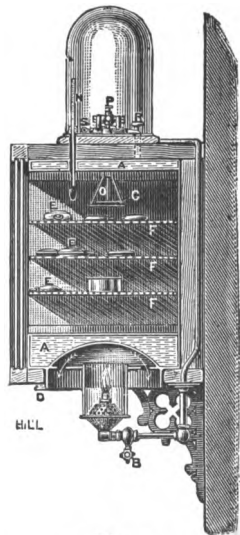

Fig. 1.
Hearson's Oven, shown in Fig. 1. is a good example tastefully arranged as a fitting for a watchmaker's shop. A is the water jacket; R and D plugs for filling and emptying; B gas tap; F shelves of coarsely woven wire on which the watches are placed. The "thermostat" C is a very sensitive device on the principle of the aneroid, for keeping the temperature constant. It is a brass capsule, two inches square and quite flat, suspended from a tube running through the water jacket; this is filled with ether; when the ether boils the sides of the capsule bulge out, and by means of a rod (O), passing through the tube the gas is turned off at the tap. In this way a constant temperature of about 85° F. is maintained. There is a small bye pass for enough gas to keep the flame from being entirely extinguished. N is a thermometer.